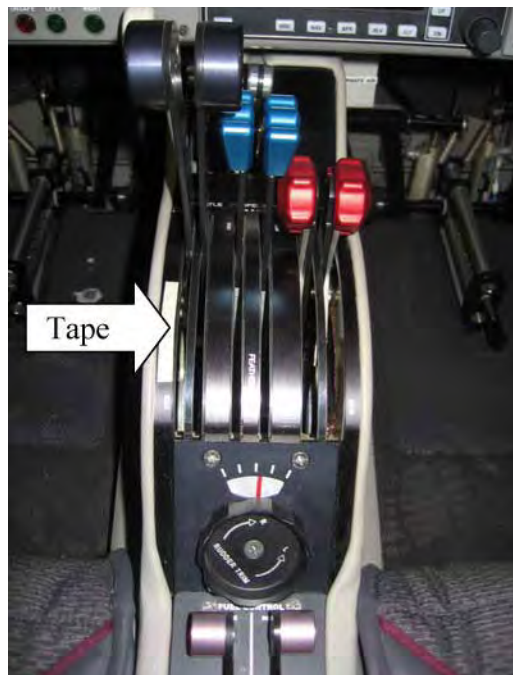

Figure 204 - Masking Tape applied to the Throttle Quadrant Cover Plate. Throttle Lever positioned at 16+ inHg
| 1.                                                                                                                                                                                                                                                                                                              | Apply masking tape to the throttle quadrant cover plate on the left hand side of the LH (RH) throttle lever.                                                                                                             | Refer to Figure 204.                            |